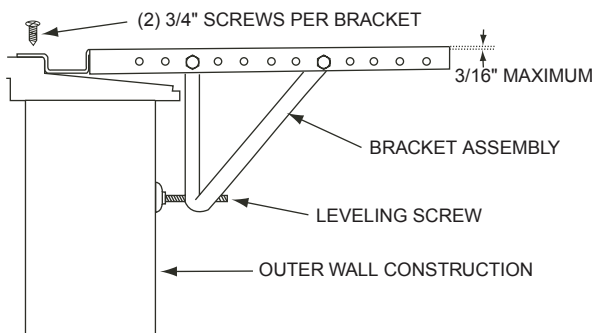

FIGURE 9 — BRACKET LOCATION AND INSTALLATION
11. Test the bracket assembly in the window. See Fig. 9. Adjust the location of the angle brackets if necessary. If location of angle brackets is correct for installation, tighten bolts on assembly. Leveling screws should touch the outside wall. If leveling screws are too far away from wall, it may be necessary to shim the area with a solid piece of wood. See Fig. 10.
13. Place a carpenter's level on the bracket assembly. Turn the leveling screw on the bracket assembly until the bracket is slightly tilted down. A slight pitch will be needed for condensate run off. The maximum pitch angle should not exceed ³/₁₆ inch. See Fig. 9.